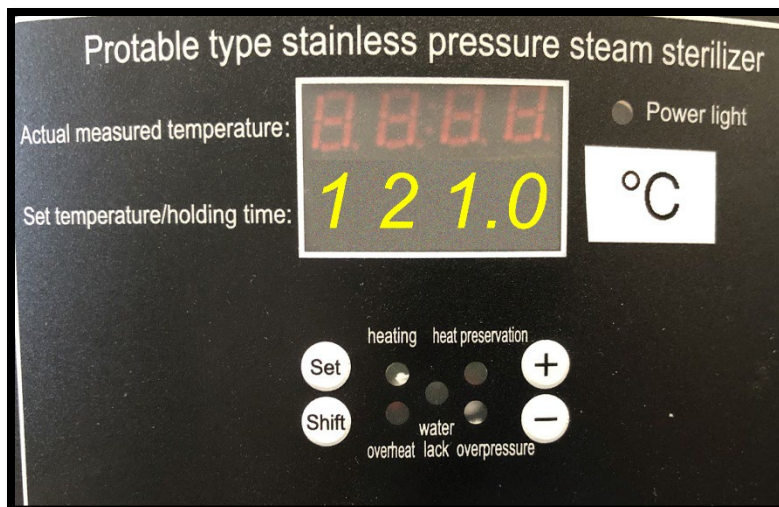

Figure 2. Temperature set point must be 121°C.
- j. While the sterilizer is plugged in, verify that the operating temperature is set to 121°C (see Figure 2) – **DO NOT CHANGE** this setting. Again, make sure you unplug the power cord after this has been verified.
- Plug in the power cord. The sterilizer will begin heating up the water and the front panel (Figure 2) displays the water temperature (on the top) and the set temperature of 121°C (on the bottom). Do not change the set temperature, leave this at 121°C.
- c. Check the previously set holding time (sterilization cycle time) and if necessary, adjust it as follows. Refer to Figure 2 for the button described.